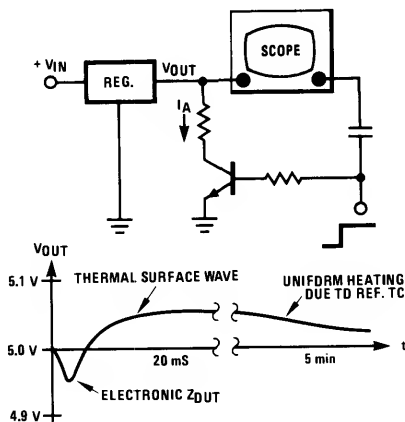

FIGURE A3.6. Thermal and Electronic Effects on Output Impedance for a Representative Regulator
Few people realize that many of the important specification limits of high power regulators are determined by thermal characteristics rather than electrical ones. To illustrate, suppose a high current step load is placed on a regulator and the output voltage is observed on a storage oscilloscope as shown in Figure A3.6. The response is due to both electronic and thermal effects.
- Initially a large negative spike (not shown in Figure A3.6) can occur due to the presence of regulator and circuit lead inductance.
- c) As the electronic response decays, a third exponential response is observed with a time constant in the 20 mS to 40 mS region (see Figure A3.6). This is the major thermal response which results
- d) The last portion of the response in Figure A3.6 shows a long term (minutes) settling effect, which is due largely to uniform heating effects in the die, header and sink. Such heating gives rise to normal temperature drift effects in the voltage reference which then reflect as small output voltage changes.